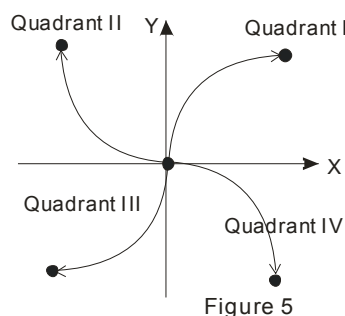
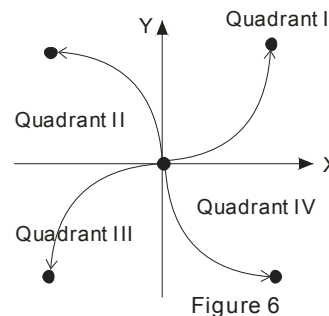

Figure 5
Figure 6
8. When the direction signal is On, the direction is positive. When the direction signal is Off, the direction is negative. When S is set to K0, K2, the arcs will be clockwise (see figure 5). When S is set as K1, K3, the arcs will be counterclockwise (see figure 6).
6. Draw four 90° arcs. When the direction signal is Off, the direction is positive. When the direction signal is On, the direction is negative. When S is set as K0, the arcs will be clockwise (see figure 5). When S is set as K1, the arcs will be counterclockwise (see figure 6).